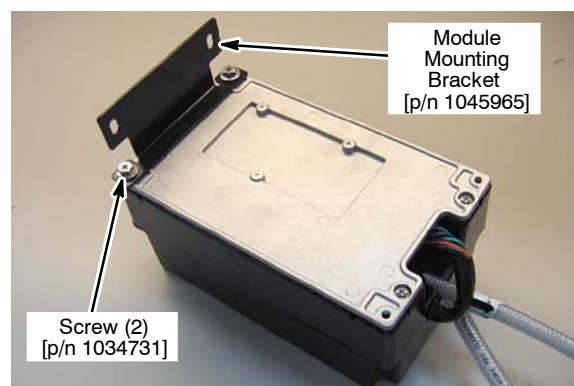

Fig. 29
2. Using two m6x1.00x16 sems screws [p/n 1034731], attach the *ec-H2O* module mounting bracket [p/n 1045965] to the *ec-H2O* module as shown (Figure 29).